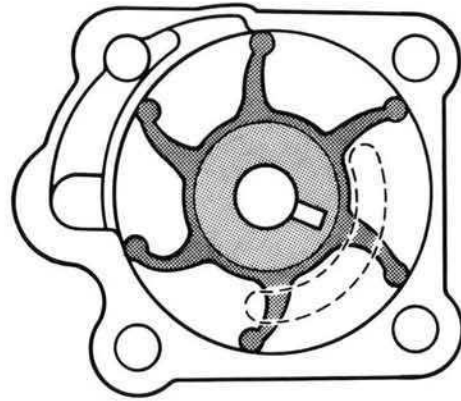

Figure 12. Installing Impeller.
- C. Place impeller in body so that groove for drive pin is open when viewed from bottom. Figure 12.